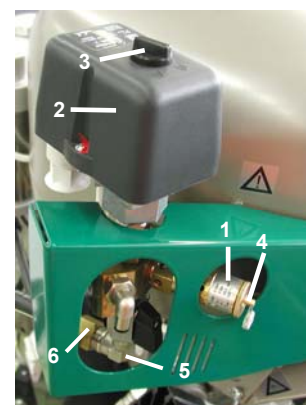

Fig.12
- Start compressor at pressure switch (2) by turning switch (3) to position "I." (Fig.12).
(Fig.12)
If the compressor will not be used for a prolonged time period, drain any condensate from the air tank. Then turn on the compressor for 10 minutes, keeping the drain valve open (1) (Fig.13). Switch off the compressor by switch (3) at pressure switch (2) (Fig.12), close the drain valve and disconnect the appliance from the mains.